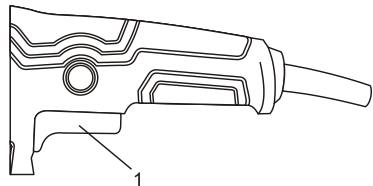

Fig. 5
To turn the sander ON, squeeze the trigger switch (1) Fig. 5). To turn the sander OFF, release the trigger switch.